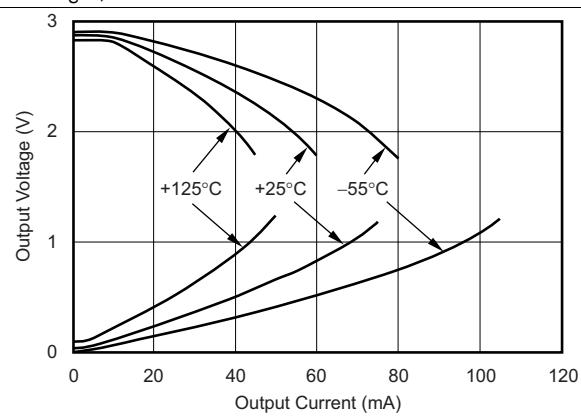
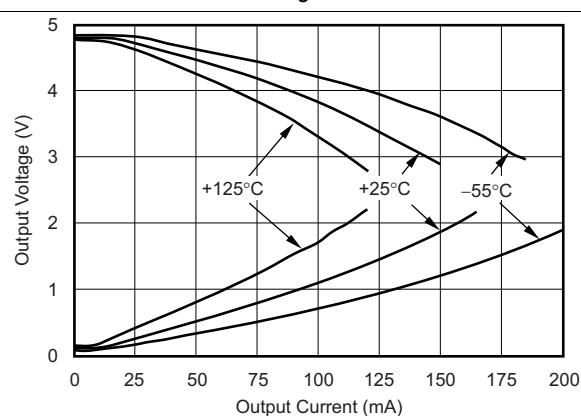

图 20. Output Voltage Swing vs Output Current for $V_S = 3\text{ V}$
图 22. Output Voltage Swing vs Output Current for $V_S = 5\text{ V}$
(1) See typical characteristic curves, *Output Voltage Swing vs Output Current* (图 20 and 图 22).
(2) Specified by design.
A class AB output stage with common-source transistors is used to achieve rail-to-rail output. For high-impedance loads ($> 200 \Omega$), the output voltage swing is typically 100 mV from the supply rails. With 10Ω loads, a useful output swing can be achieved while maintaining high open-loop gain. See the typical characteristic curves, *Output Voltage Swing vs Output Current* (图 20 and 图 22).
The TLV3544-Q1 output stage can supply a continuous output current of ± 100 mA and yet provide approximately 2.7 V of output swing on a 5-V supply, as shown in 图 30. For maximum reliability, TI does not recommend running a continuous DC current in excess of ± 100 mA. Refer to the typical characteristic curves, *Output Voltage Swing vs Output Current* (图 20 and 图 22). For supplying continuous output currents greater than ± 100 mA, the TLV3544-Q1 may be operated in parallel, as shown in 图 31.